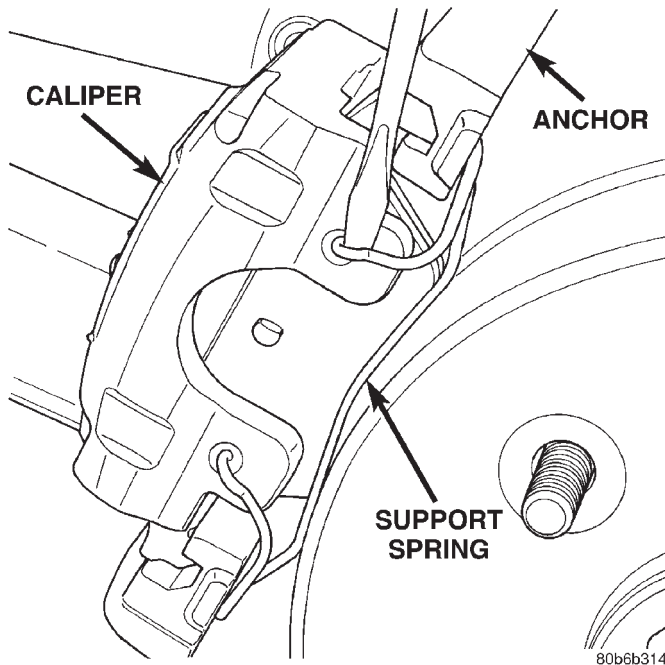

Fig. 38 Caliper Support Spring
- (5) Remove the caliper support spring by prying the spring out of the caliper (Fig. 38).